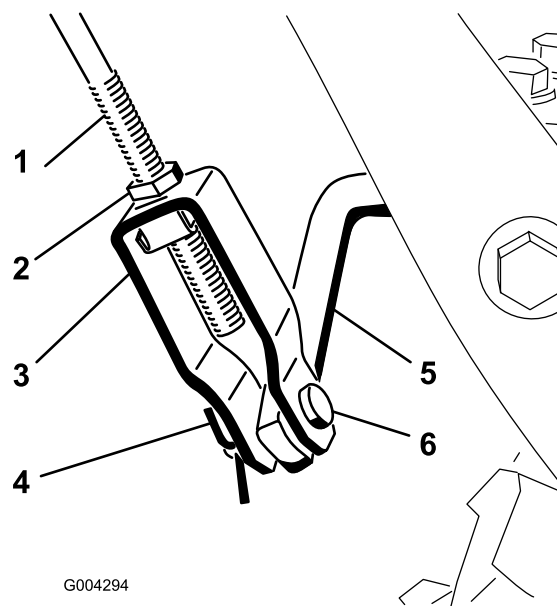

Figure 8
1. Loosen the jam nut above the clevis on the upper control rod (Figure 8).
2. Align the holes in the clevis and the lower control rod and insert the clevis pin (Figure 8).
- C. Thread the clevis up or down to increase or decrease the distance between the top of the handgrip and the bottom of the auger/impeller drive control lever (Figure 8).
6. When the adjustment is correct, install the clevis pin and secure it in place with the cotter pin (Figure 8).
7. Tighten the jam nut to secure the clevis (Figure 8).